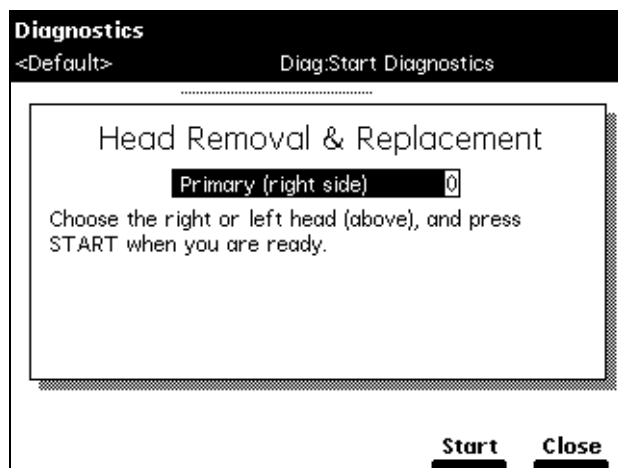

Figure 7-3 Head Removal & Replacement Screen
3. Select **Head Removal and Replacement** from the list in the Other Diagnostics screen, then press **OK**. The Head Removal and Replacement screen appears (Figure 7-3).